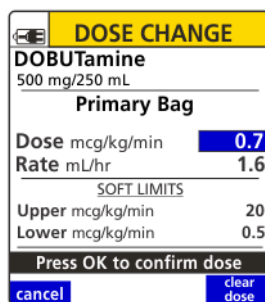

Figure 79. Dose Change Screen with New Dose.
3. Enter a new dose. See Figure 79.